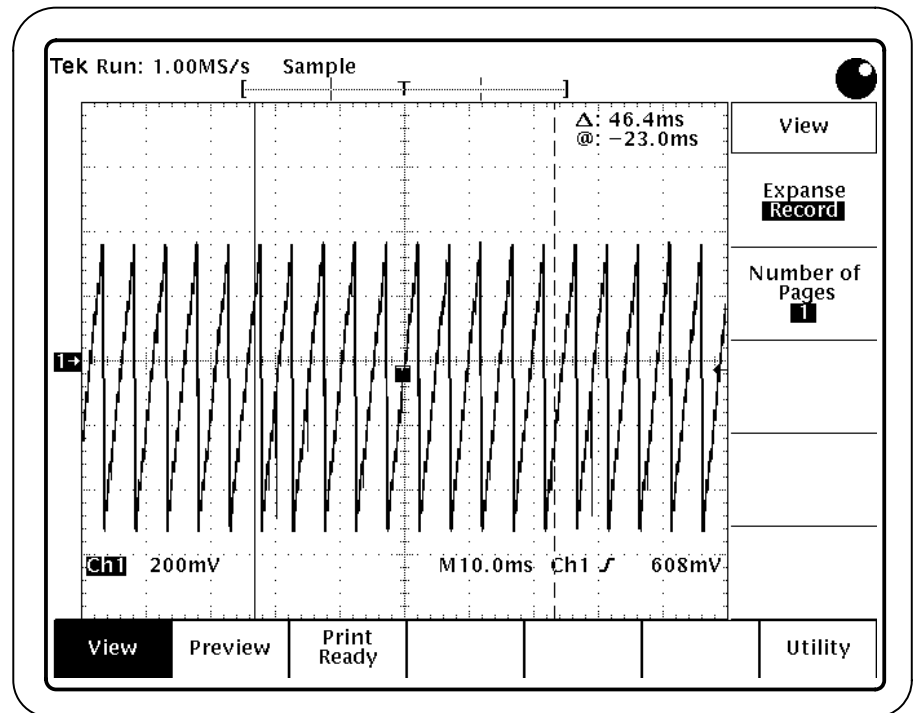

Figure 3: View menu
To set up the Enhanced Printing application, refer to Figures 3 and 4, and follow these steps:
1. Press View (main). Figure 3 shows the View menu.